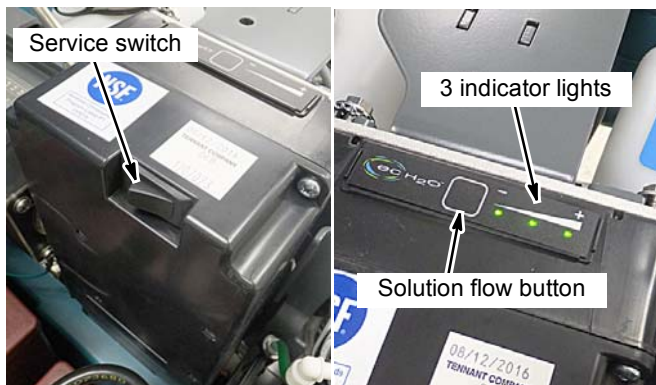

FIG. 144
- b. Press and hold the service switch, located on the ec-H2O module, for 10 seconds. After releasing service switch, the three solution flow indicator lights will begin to (ripple) move back and forth (Figure 144).
- c. Within 5 seconds after releasing the service switch, while the three indicator lights are moving back and forth, quickly press and release the solution flow button located on ec-H2O module (Figure 144).